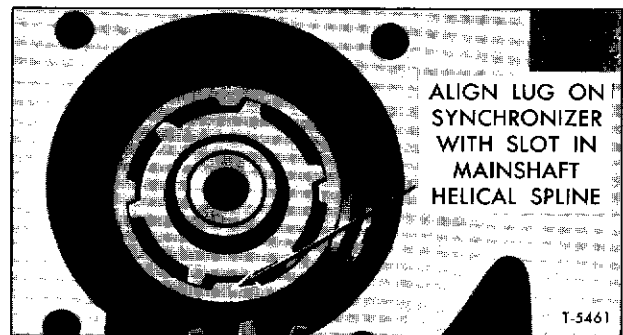

Figure 3—Synchronizer Alignment
**IMPORTANT:** While performing the following step, do not force the mainshaft. Rotate 2nd and 3rd speed clutch gear to align gear lugs with mainshaft splines (fig. 3).
7. Remove bolts and lock washers attaching case extension (15) to case (9). Lift extension with mainshaft assembly from case leaving 2nd and 3rd speed clutch assembly (8), and 1st and reverse gear (10) in transmission case.
8. Remove 2nd and 3rd speed clutch (8) and 1st and reverse gear (10) through transmission side cover opening.
9. Drive the countershaft (53) out of the transmission case from the front toward the rear, using a soft drift and hammer. Raise the countershaft cluster gear (52) and remove gear through the opening in the case. Remove the thrust washers (49) and bearing rollers (50) from the bottom of the case or cluster.